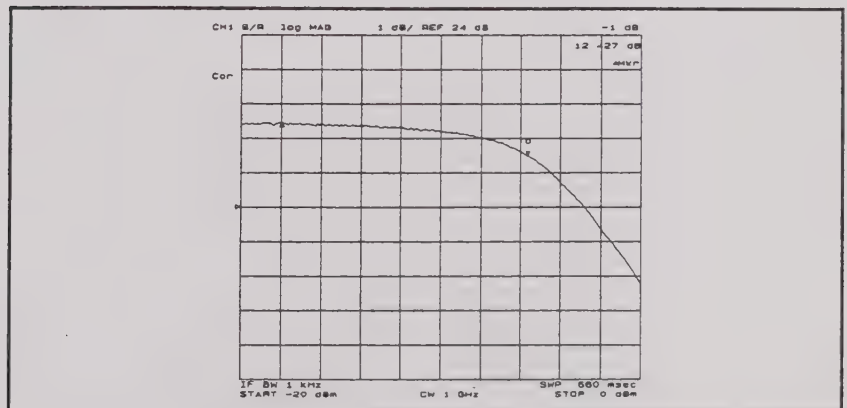

Figure 4-23. Gain Compression
9. Press **[Search]** **TARGET -1 [x1]** to search for the point of the gain compression. (See Figure 4-23.)